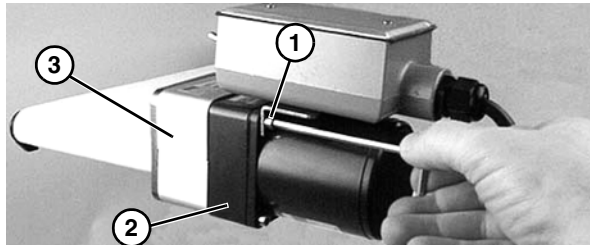

Figure 51
3. Remove four (4) screws (**Figure 51, item 1**). Remove gearmotor (**Figure 51, item 2**) and cover (**Figure 51, item 3**).